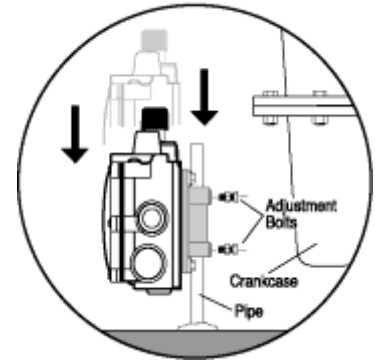

Figure 5
2. Attach the 1 inch (25 mm) diameter, flexible monitoring hose to the crankcase and the monitoring port on the LM500. See Figure 5.
**IMPORTANT:** With the engine running and warm, loosen the mounting bracket adjustment bolts and adjust the LM500 so that the oil level in the sight gauge is aligned with the middle of the green bar on the dial (see example, Figure 5).